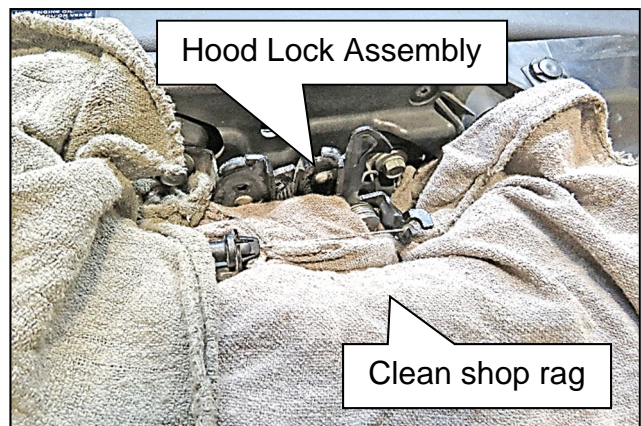

Figure 8
11. Place a clean shop rag under the Hood Lock Assembly (Figure 8).